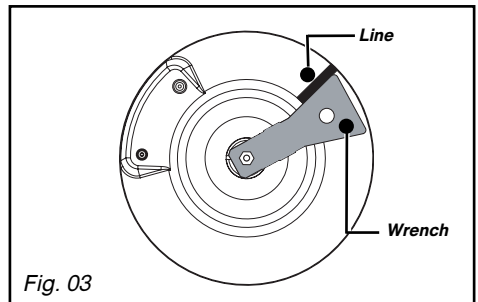

Fig. 03
In an existing system, a soft pipe fitted with clamps whose service (compliant with the XP D 36-110 standard) whose service life is five years may be used. It is necessary in this case to use an adaptor without forgetting to fit a sealing washer between the adaptor and the hob's elbow. (Fig. 03).
- Turn the wrench clockwise until the line appears on the other side (Fig. 03).